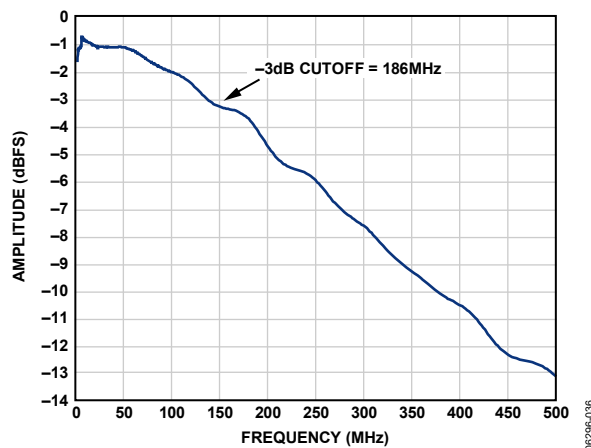

Figure 59. Evaluation Board Full-Power Bandwidth
- **AIN:** The evaluation board is set up for a transformer-coupled analog input with an optimum 50 Ω impedance match of 150 MHz of bandwidth (see Figure 59). For more bandwidth response, the differential capacitor across the analog inputs can be changed or removed. The common mode of the analog inputs is developed from the center tap of the transformer or AVDD_DUT/2.